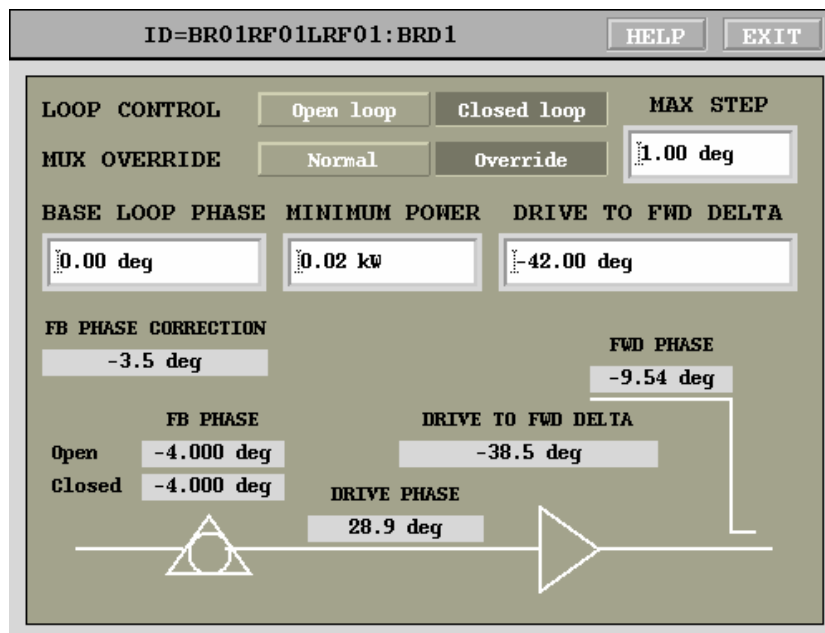

Figure 15: Amplifier phase loop panel.
4. Launch the amplifier phase loop panel (Fig. 15) from the feedback panel and set its loop control to "Open loop";
adjusted to maintain a constant phase shift from the loop error signal to the cavity forward signal. The control panel for the amplifier loop is shown in Fig. 15.